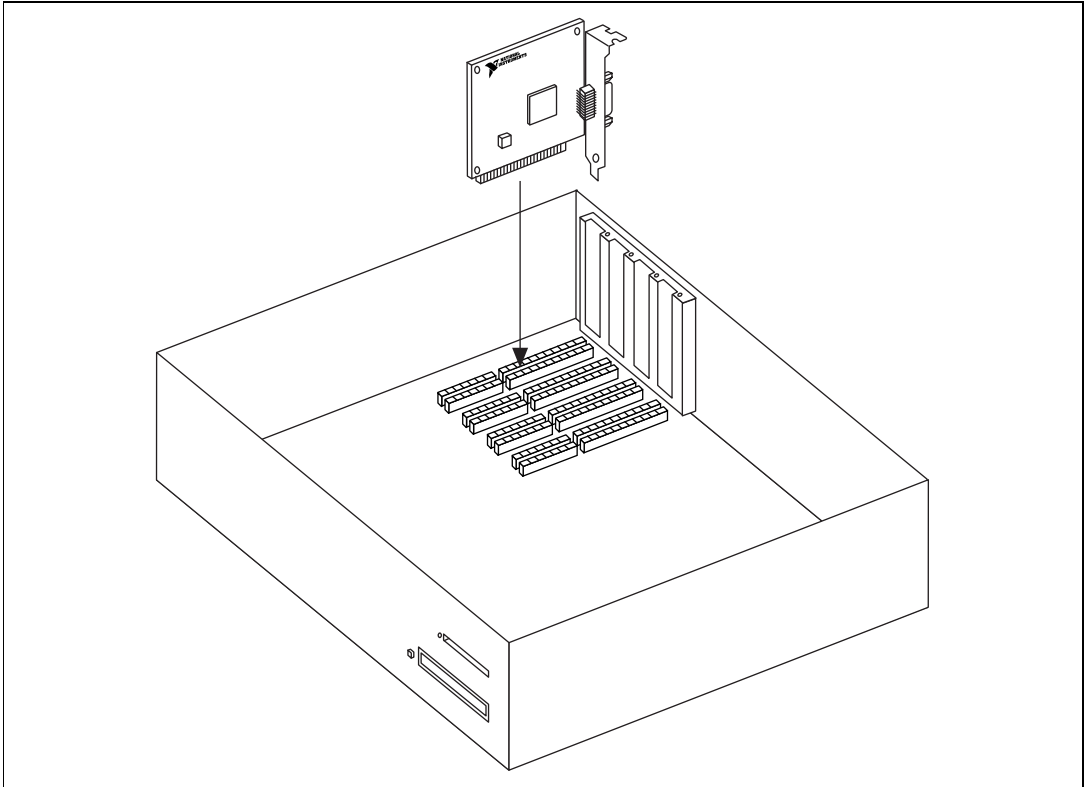

Figure 2-13. Installing the GPIB-PCII/IIA
5. Insert the GPIB-PCII/IIA into the slot with the GPIB connector sticking out of the opening on the back panel, as shown in Figure 2-13. It might be a tight fit, but do not force the board into place.